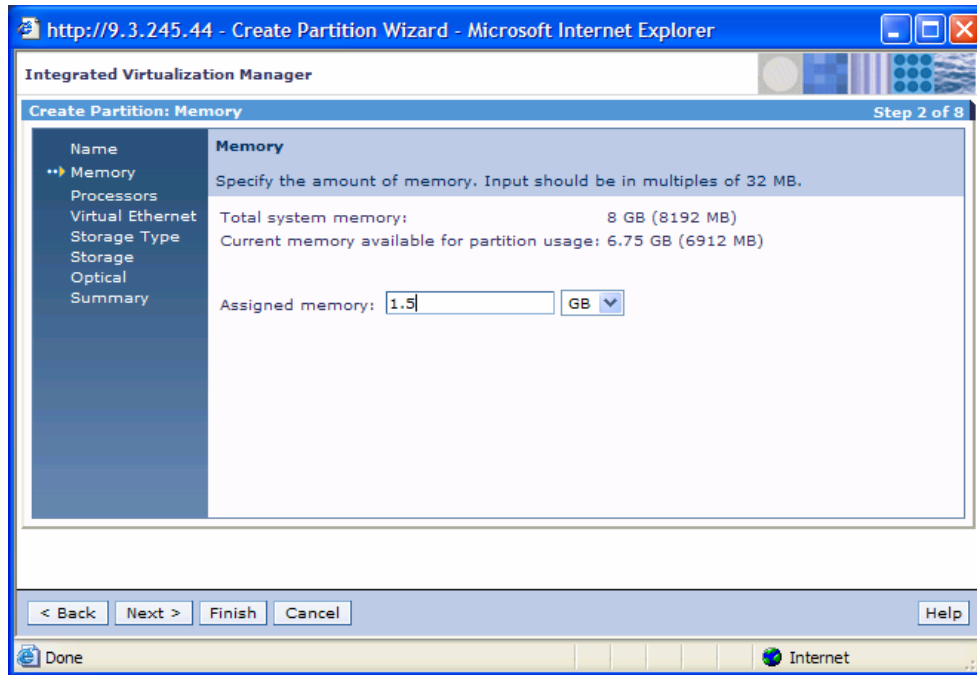

Figure 50. Assigning memory for the new partition
- Assign 1.5 gigabytes of memory to the partition (see Figure 50). Then, click **Next**.